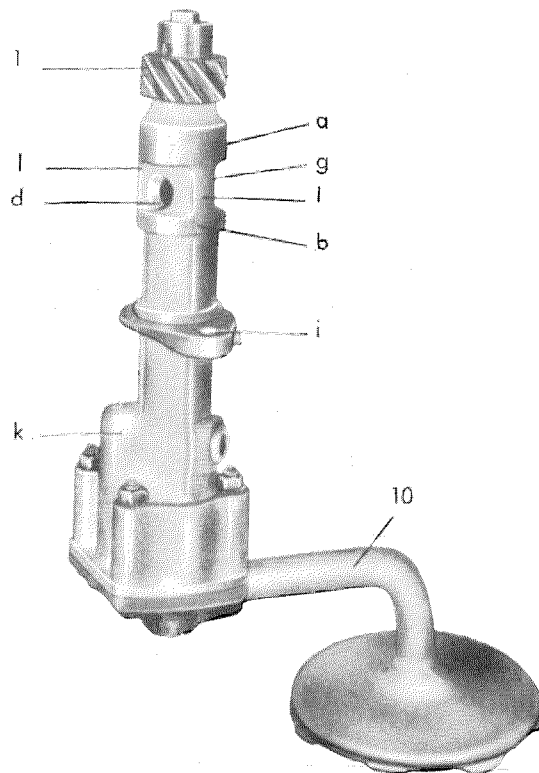

Figure 18-14/3
1. Unscrew the suction pipe with suction strainer (10) and also the bottom part of the oil pump housing and remove the gear (9) with shaft (Figure 18-14/2 and 18-14/3).